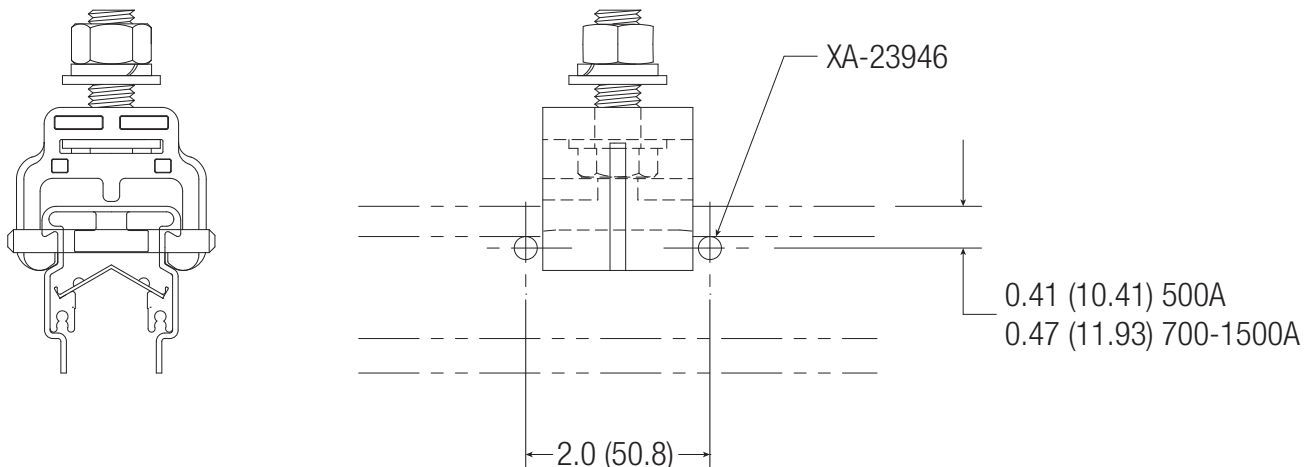

Figure 7-1
2. Drill two (2) 0.247" (size "D") holes through the conductor rail and cover. Drill these holes as straight as possible, parallel to the top of the rail. See Figure 7-1.